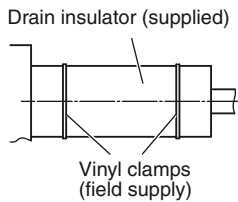

Fig.3-9
- (2) After connecting the drain pipe securely, wrap the supplied packing and drain pipe insulator around the pipe, then secure it with the vinyl clamps. (Fig. 3-9)